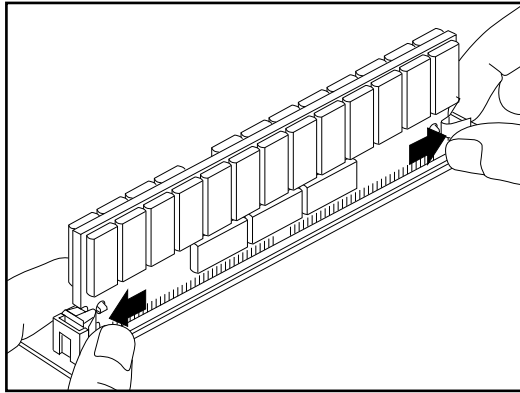

Fig. 9.13 Open the Bank Latches
- b. Use your thumbs to pull open the two latches on the bank, one on each end (fig. 9.13).